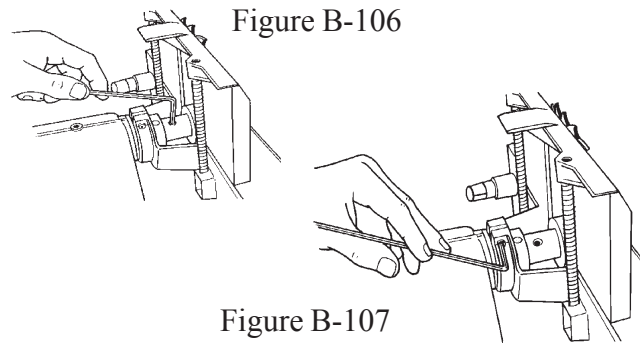

Figure B-107
65. Use the 5/32" Allen wrench to tighten the socket head screw on the saw guard collar, as seen in Figure B-107.